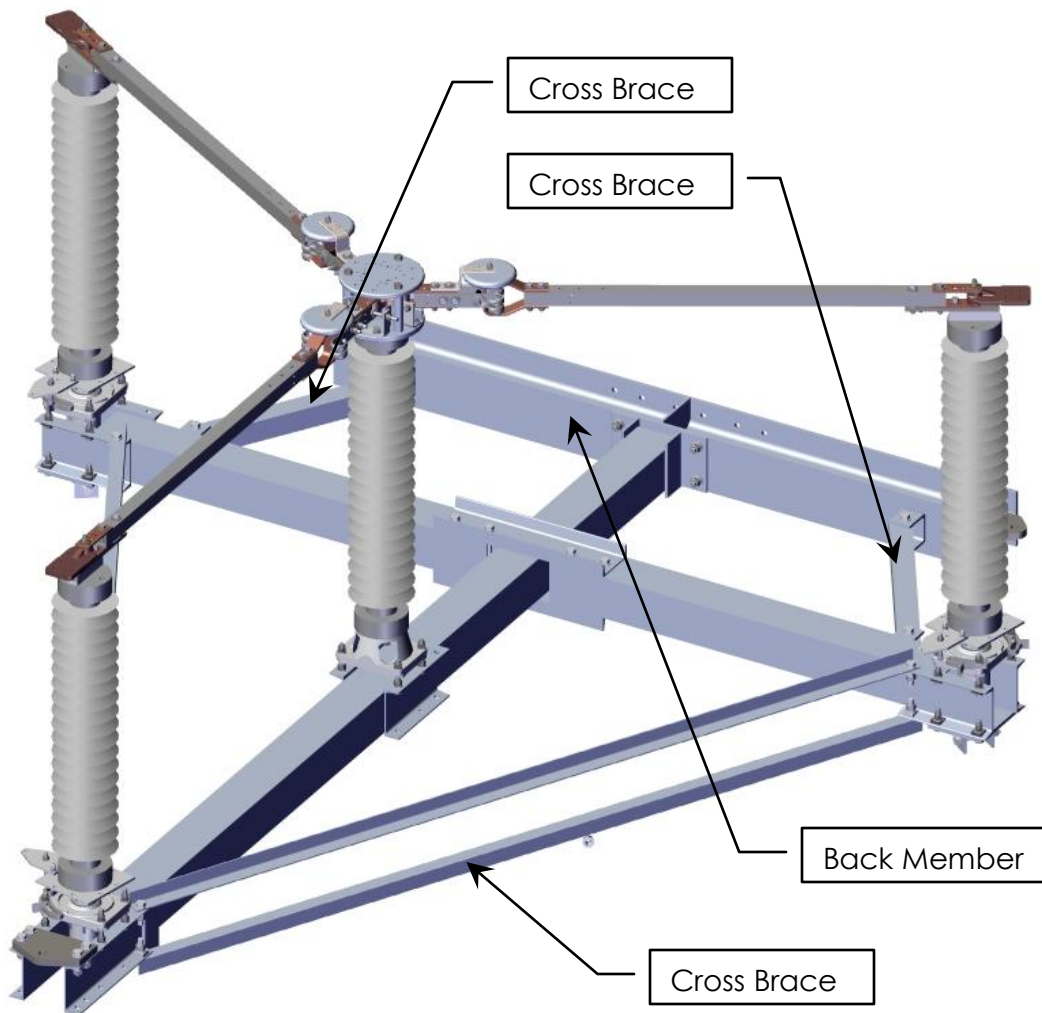

Figure 9: Base Frame Components Attached
- 1) Attach back member and cross braces specified in Operating Mechanism Drawing. See Figure 9.